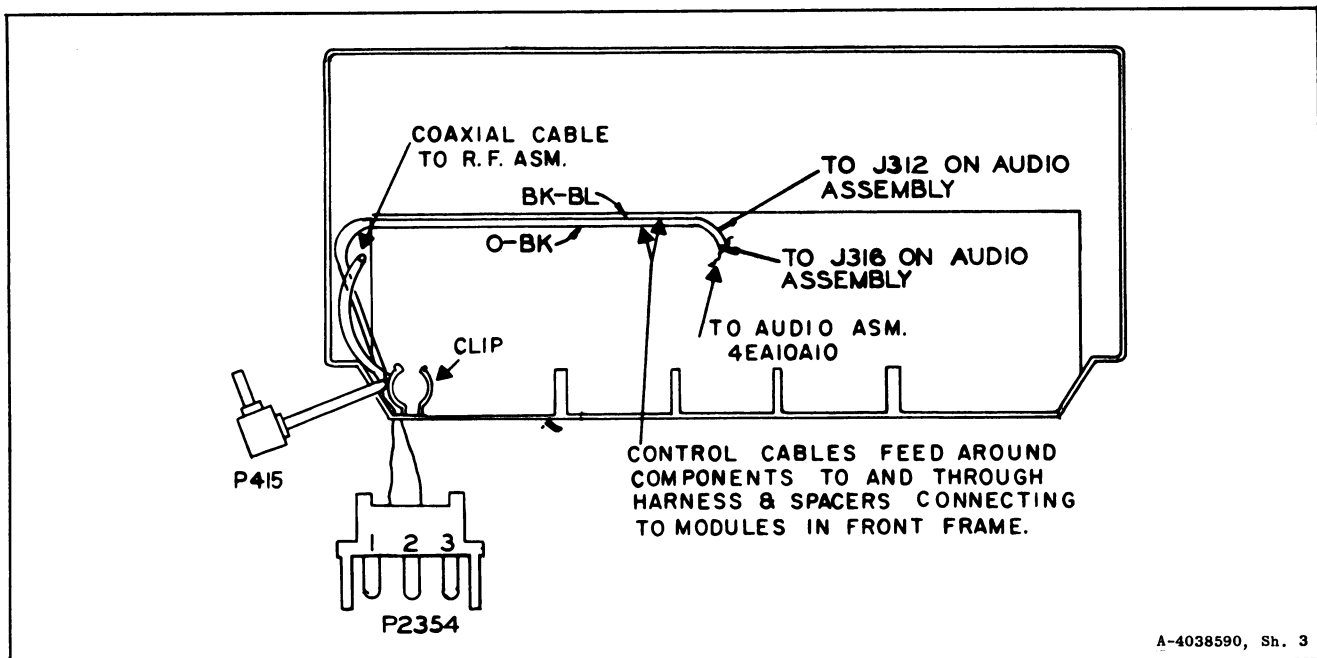

Figure 3 - Cable Routing (Back View of Control Unit)
Cable Routing	Figure 3
- a. Install power cable (which terminates with P2354) as shown in Figure 3.
- b. The cables should be routed as shown in Figure 3 about the control unit.